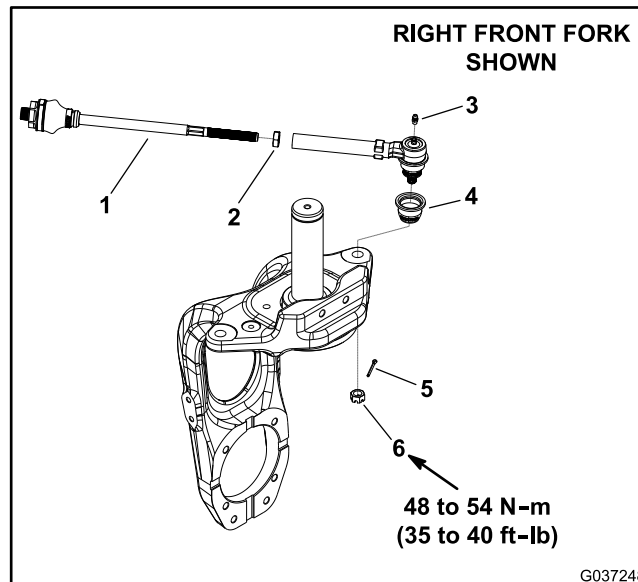

Figure 273
4. Remove the cotter pin (item 5 in Figure 273) and slotted hex nut that secure the tie rod end to the front steering fork.
- 8. Connect the tie rod end (item 1 in Figure 273) to the front steering fork with the slotted hex nut. Tighten the hex nut from **48 to 54 N·m (35 to 40 ft-lb)**. Install a new cotter pin.